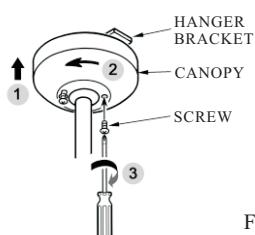

FIG.10
4. Mount the canopy on the hanger bracket and tighten the screws to hold the canopy in place. (see Fig.10)